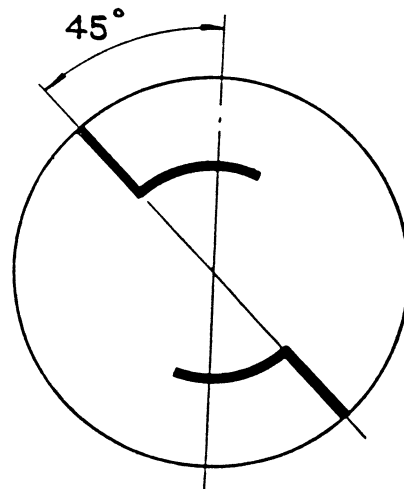

FIG. 130.
14. Replace starter jaw, shimming as necessary to present the easiest position for cranking the engine as shown in Fig. 130.